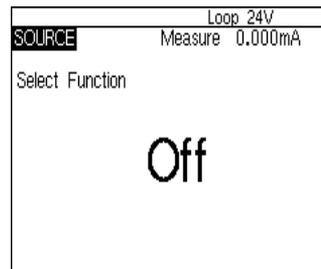

Figure 21
5. Next depress the "MEAS/SOURCE" button; now you are in the source screen (Figure 21).